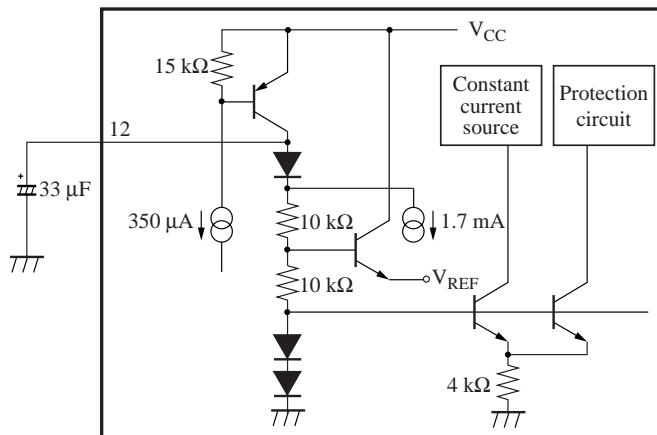

Figure 5
- (4) The DC voltage of output terminal is approximately the middle point of the ripple filter terminal voltage.
- (5) The internal circuit of ripple filter terminal is as shown in Figure 5 and the charge current is approx. 3 mA to 10 mA.
- (6) After the power supply is turned off (STB-low), it takes 10 seconds or less for the total circuit current to become the standby current (under 10 μ A). If approx. 47 k Ω resistor is inserted between the ripple filter terminal and GND for the purpose of reducing the inspection time with set, a time until the current becomes the standby current can be shortened.